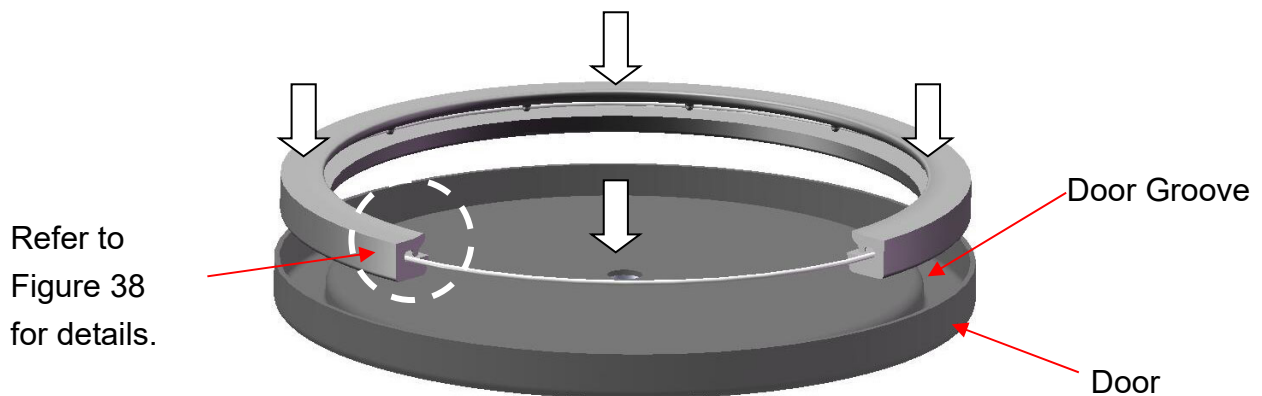
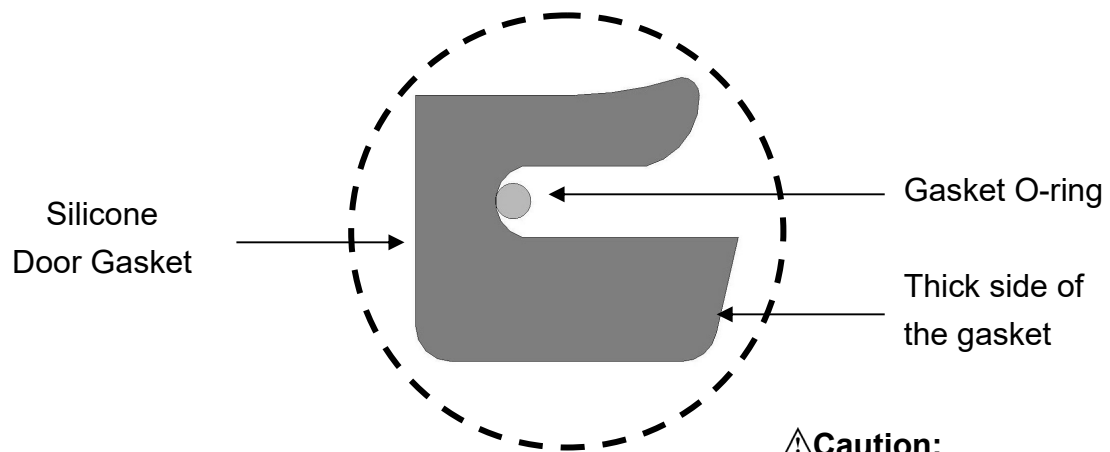

Figure 37
Figure 38
3. Install the gasket with the o-ring inside to the door groove. Press the gasket into the door groove evenly as Figure 37. Take notice of the installation direction while pressing the gasket into the groove as the gasket is designed with a trapezoidal section. Refer to Figure 38 for the correct direction.